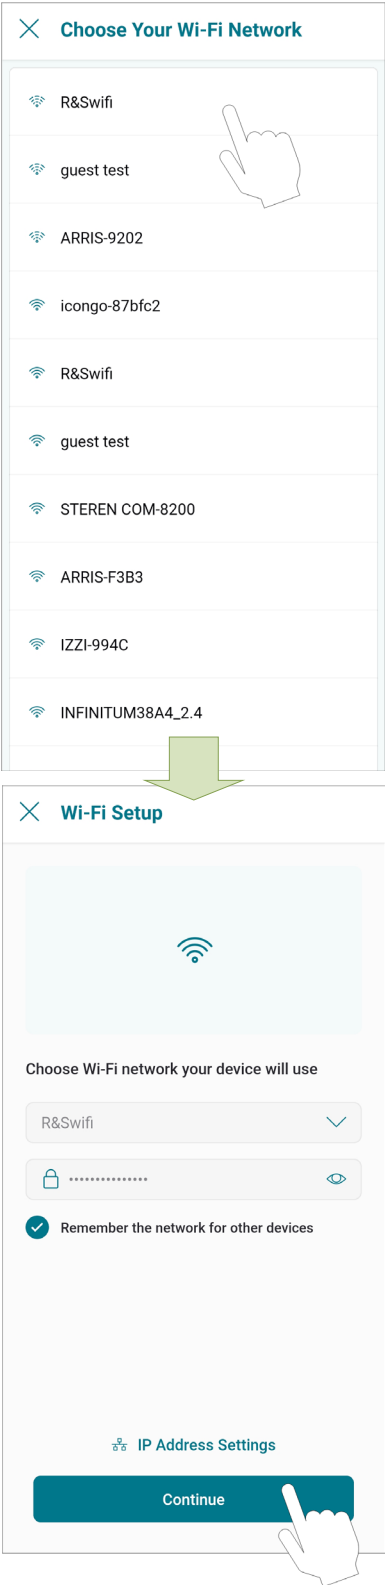

Figure 85. Wi-Fi Setup
- The "Wi-Fi setup" screen will appear. Select or enter the Wi-Fi network you want your unit to be connected to and enter the network password. See **Figure 85**.